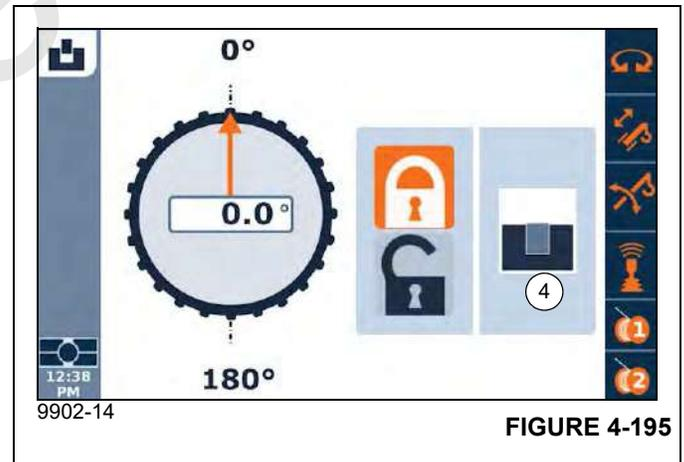

FIGURE 4-195
In (Figure 4-195), the Swing Lock Status Indicator (4) shows the swing lock is in the locked position.